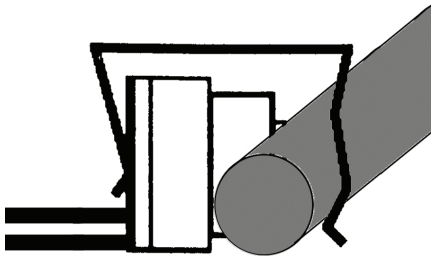

FIG. 3
- 2 The aquastat control is a surface temperature sensing device that must be in contact with the system piping to operate properly. Separate models include clip-on mounts for $\frac{3}{4}$ " ($\frac{7}{8}$ " o.d.) and $\frac{1}{2}$ " ($\frac{5}{8}$ " o.d.) copper tubing. (See FIG. 3)